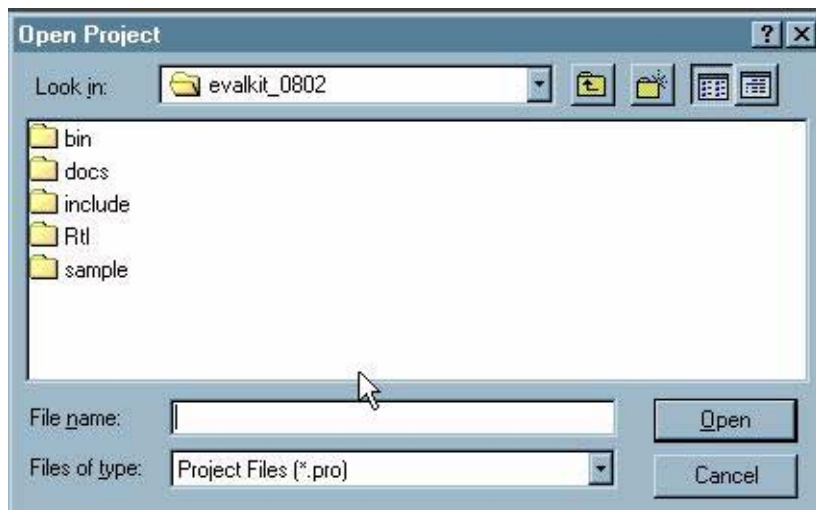

Figure 11. Open Project Dialog Box
4. Select Open Project from the File menu. The Open Project dialog box appears. See Figure 11.